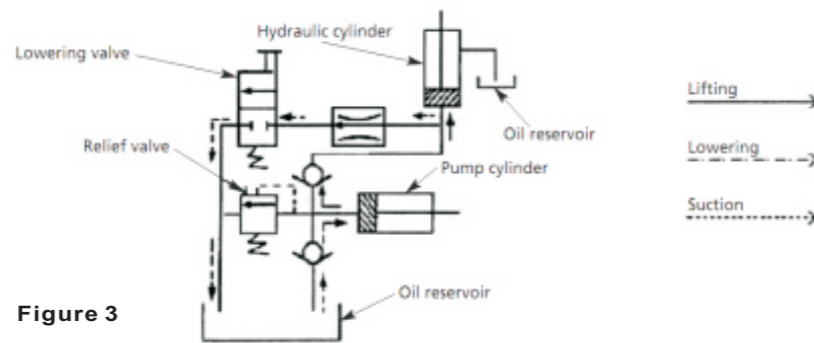

Figure 3
Monthly lubrication is recommended to ensure proper and safe operation. See Figure 3.
- Lubricate rollers and pivot points according to Figure 3